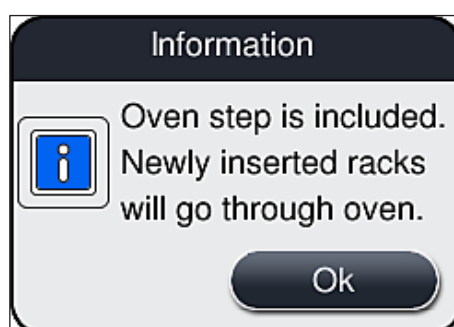

Fig. 37
3. Apply the configuration by pressing the **Save** (→ Fig. 33-5) button and note the subsequent information message (→ Fig. 37) and confirm it with **Ok**.